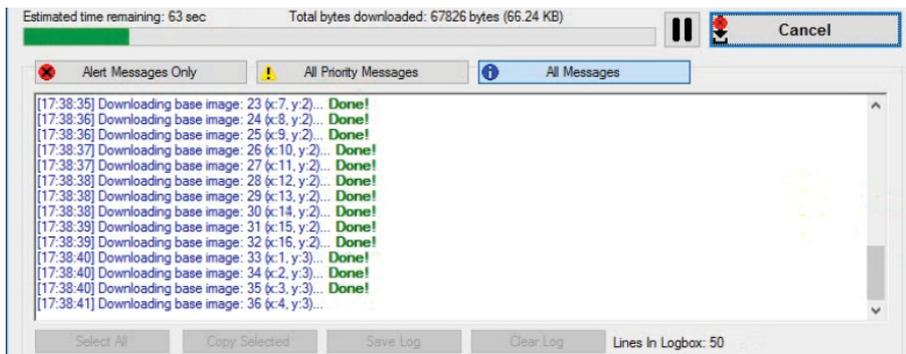

Figure B-3. Download Map In-Process
- The map will take a short amount of time to download. The loading green-bar indicator and the amount of time remaining for the download process to complete is indicated by the MapPuzzle user interface as shown in Figure B-3.